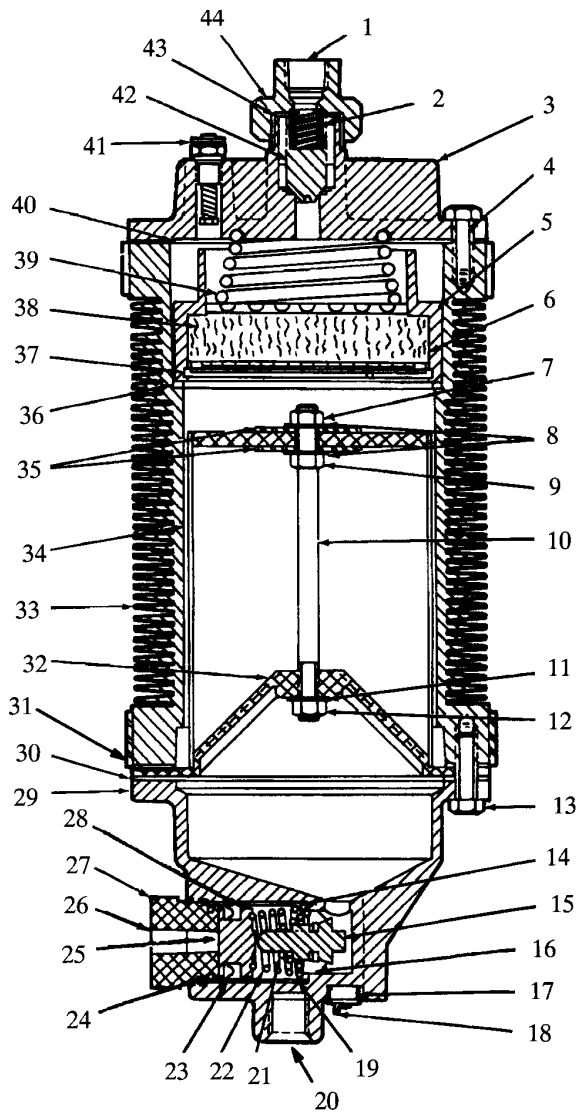

Figure 61 Air Dryer - CR Brakemaster Model 62
Refer to Figure 61 for all items in parentheses.
4. Place gaskets (Item 10) followed by ring seat assembly into bottom cap (Item 29, Figure 61).
8. Insert a 1/2 inch (12.7 mm) diameter rod or equivalent through the exhaust port in the bottom cap (Item 29, Figure 61) and into the cross hole of sleeve (Item 28, Figure 61) to maintain alignment. If the cross holes are not aligned, the unit will not operate.
9. Apply a non-hardening sealing compound to threads in the unloader valve nut (Item 27, Figure 61) and install nut. Tighten nut to 60 ft-lbs. (81 N·m) —**DO NOT OVER-TIGHTEN**— maintaining the alignment of the cross holes of sleeve (Item 28, Figure 61).
11. Reinstall the governor control line to UNL port (Item 26, Figure 61) in center of unloader nut.